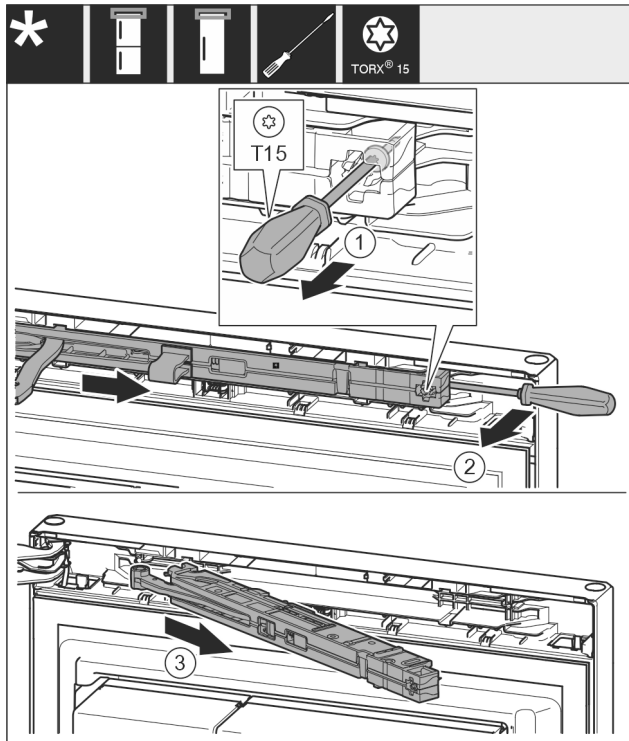

Fig. 10
- ▶ Loosen the screw Fig. 10 (1) on the closing damper unit with a 14 mm (9/16 in) screwdriver.
- ▶ Use the screwdriver to lift out the closing damper unit Fig. 10 (2) on the handle side.
- ▶ Pull out the closing damper unit Fig. 10 (3).